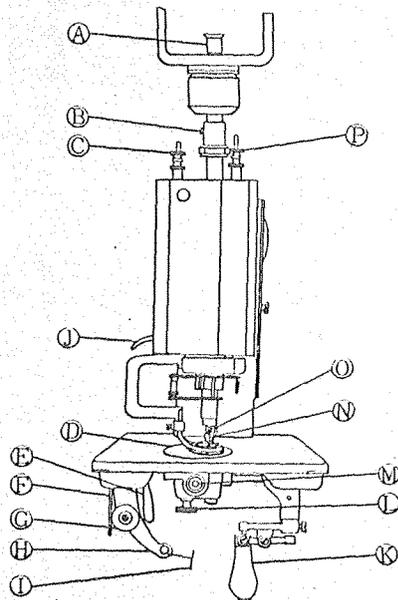
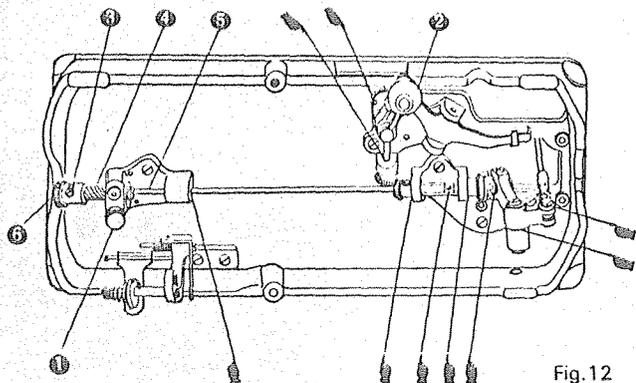

Fig. 4
Fig. 12
6. TO REMOVE, REPLACE AND SET NEEDLE AND NIPPLE (Fig. 4)
10. TO REGULATE THE PRESSURE ON THE PRESSER FOOT (Fig. 4)
The pressure on the presser foot is regulated by the thumb screw ③, Fig. 4. To increase the pressure, turn the thumb screw over to the right or downward. To decrease the pressure, turn the thumb screw over to the left or upward.
14. THE LOOPER (Fig. 12)
Allow the stop motion to throw the machine out of action and make sure that it is securely held in its locking position. Raise the needle holder to avoid breaking the point of the needle, remove the needle plate after removing the thumb screw (c), Fig. 12, and observe the notch in the looper which, when in its correct position, should be at the rear slightly to the right of the needle, while the handle (d) is toward the front.
15. TO SET THE LOOPER (Figs. 4 & 12)
Turn the machine back on its hinges and turn handle ②, Fig. 12 and screw ③, Fig. 4 to the front. Loosen set screw ④, Fig. 12 of the operating worm gear ⑤, and turn the gear slightly, until the notch in the looper is in its correct position as instructed above. After having set the worm gear flush with the end of the looper shaft ⑥, tighten the set screw ④.
18. RAY STITCH (Figs. 4 & 7)
(1) For loosening thread (Fig. 4)
loosen the screw ③, Fig. 4 and lift the needle bar ④ so that the thread loosens.
19. PILE OR MOSS STITCH (Figs. 4, 10 & 12)
The raised pile or moss stitch is produced by adjusting the machine so that it will drop the stitches in loose loops on the materials. To accomplish this, turn handle ⑪, Fig. 4 to the front, loosen the screw ⑫ and turn the needle bar ⑬ so that the hook of the needle will point directly to the back of the machine, then tighten the screw ⑫. Reach under the bed of the machine with the left hand, grasp the knurled end ⑭, Fig. 12 of the operating worm gear ⑮ draw the worm gear to the left and while holding it turn handle ⑯ around to the right directly to the back, then release the knurled end of the gear.